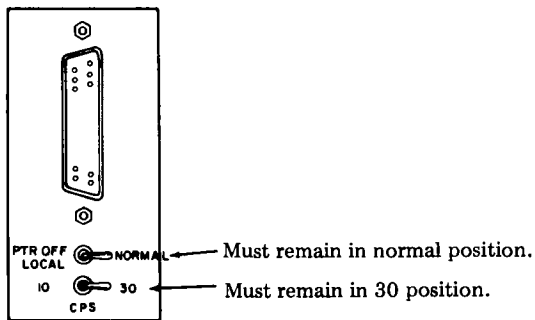

Fig. 13—Auxiliary PT Unit Controls
4.04 The PT unit auxiliary controls are shown in Fig. 13. The controls must remain in the position shown for Telex application.